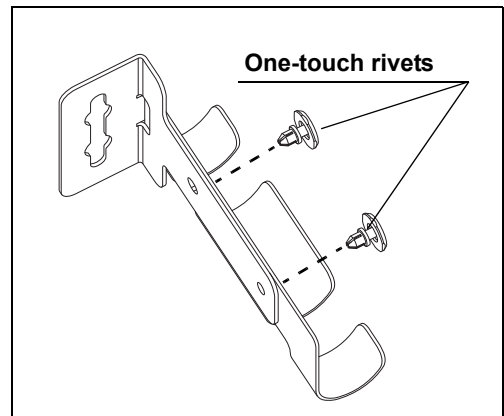
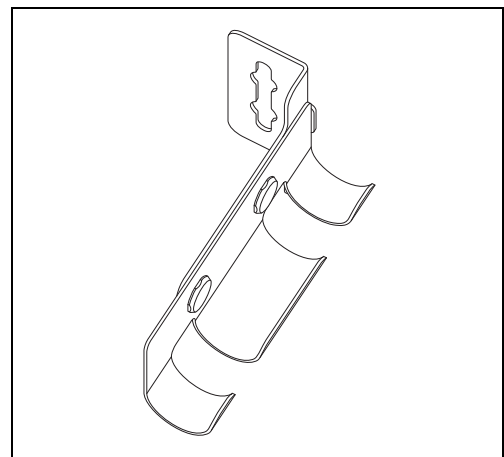

Figure 3.3
Figure 3.4
- 2 Align the holes of the stay and the hanger part and insert the one-touch rivets into the holes from the hanger part side (see Figure 3.3). Insert the new one-touch rivets until they hit the surface of hanger part, and secure the stay to the hanger part. (See Figure 3.4)